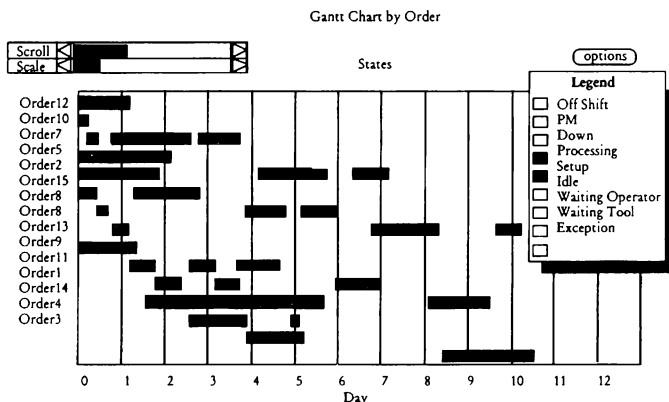

Figure 4: Sample Gantt Chart
- **Schedule Diagnostics** - AutoSched provides Gantt charts and business graphs to help you visually interpret the schedules (see figure 4).